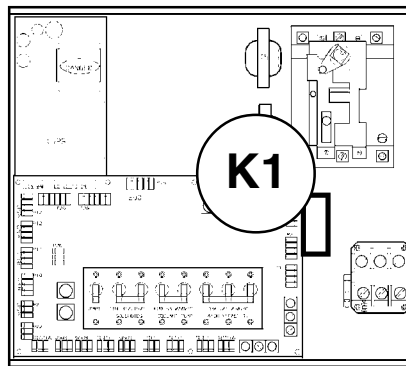

Fig. 2-4 Measure voltage here. problems, call the factory.
2. Disconnect the air lines from the spindle lube air solenoid assembly (See Fig. 2-4).